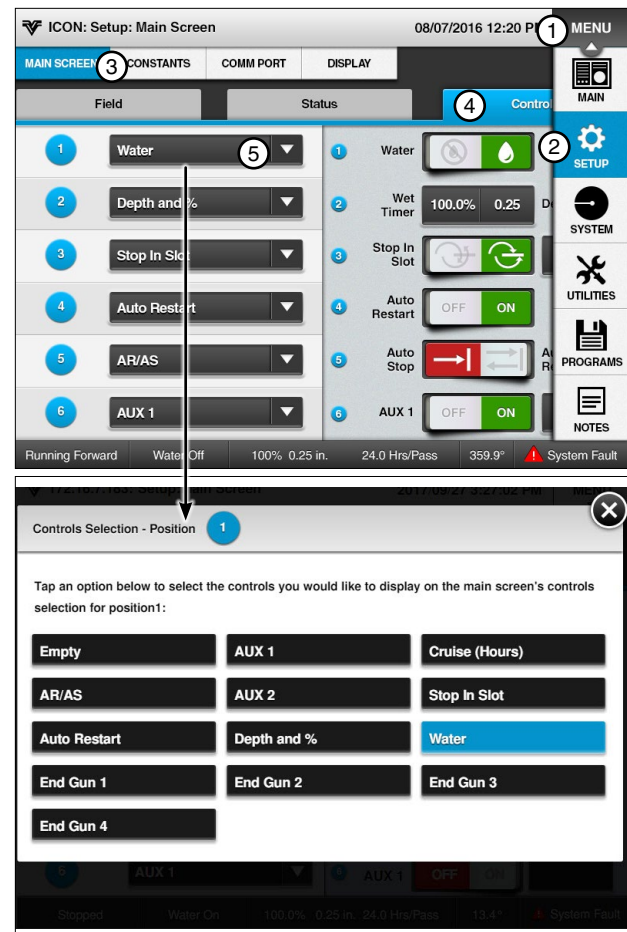

Figure 14-1 1. Menu 2. Setup 3. Main Screen 4. Controls 5. Controls Drop-Down
1. To set the Main screen controls, Push **Menu**, **Setup**, **Main Screen**, and **Controls** to display the Controls screen. Refer to Figure 14-1.